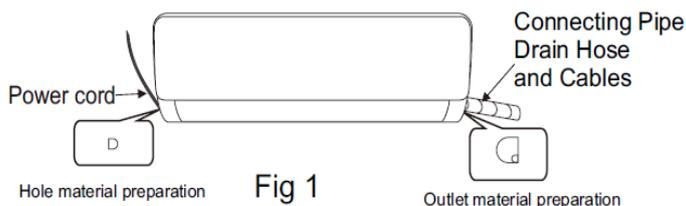

Fig 1
1. Depending on the position of the unit, the piping may be routed sideway from the left or the right ( Fig 1 ), or vertically from the back( Fig 2 )(depending on the pipe length of the indoor unit). In the case of sideway routing, cut off the outlet cutting stock of the opposite side.